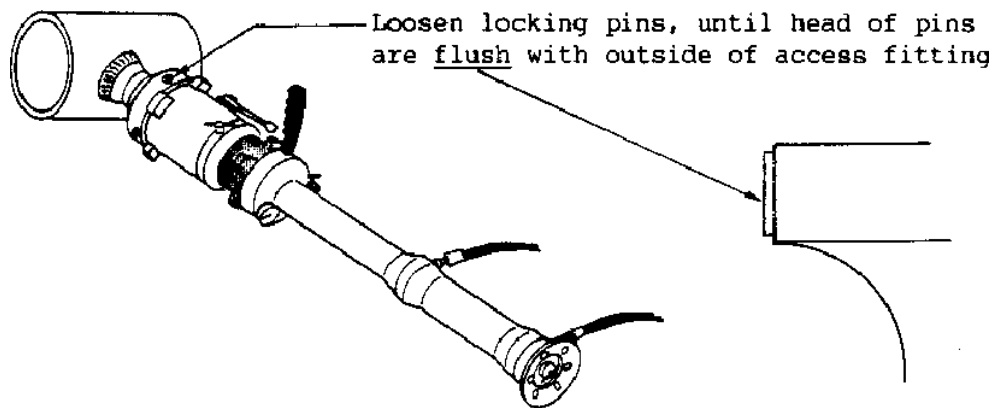

Fig. 8
17. Loosen (counter clockwise) all of the locking pins in the access fitting. The locking pins should be easy to loosen. If they are difficult to loosen (high friction), the pressure in the cylinder might be too low. The pins must then be tightened, again and the pressure increased (see step 16) before the pins are loosened again. **IMPORTANT!** The locking pins should only be screwed out until the head of the pin is flush with the outside of the access fitting. **No threads must be visible.** If the pins are unscrewed too far, they will leak when the plug is retrieved (fig. 8).